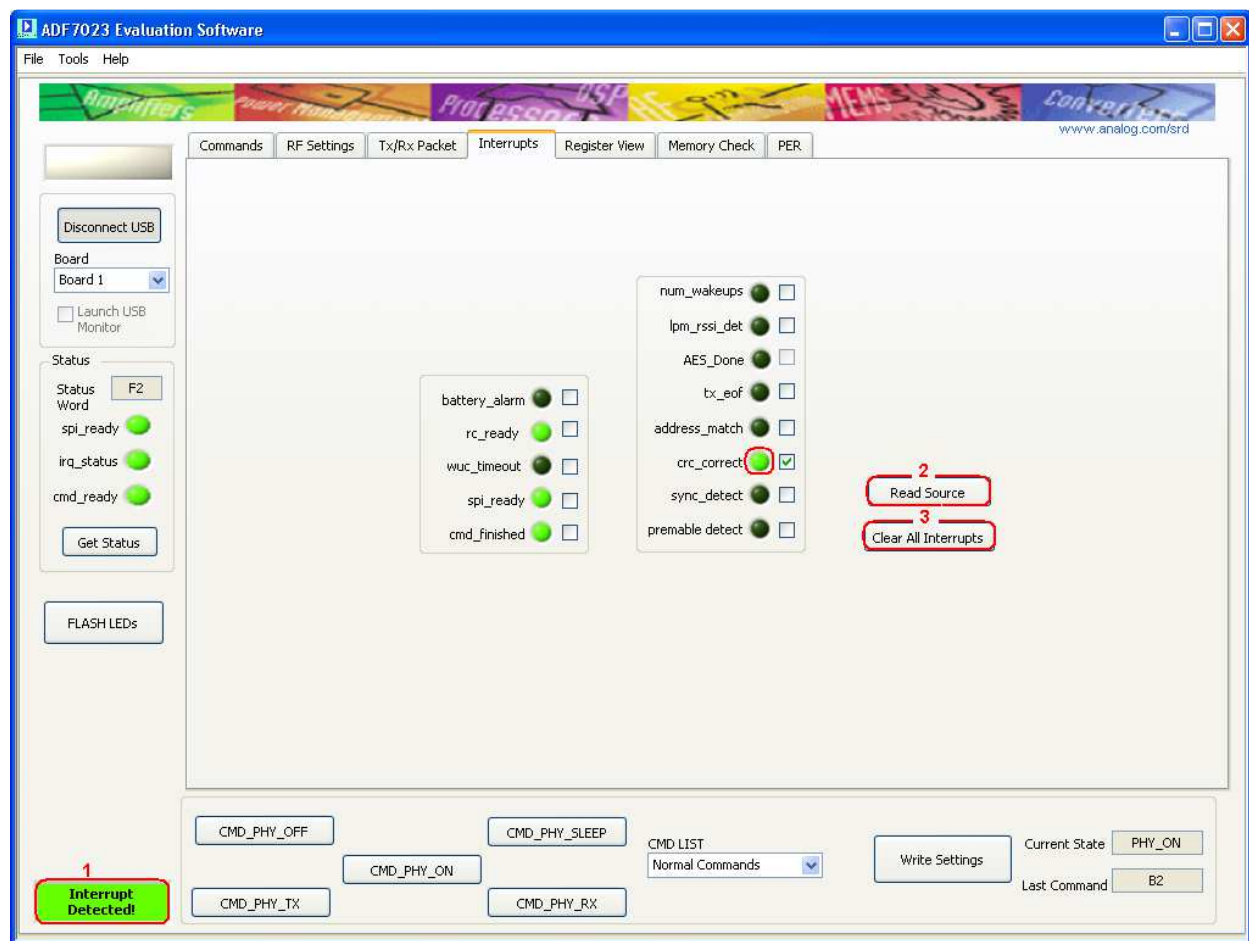

Figure 38
Once the Transmitter has transmitted a packet you should now see “**Interrupt Detected!**” on the Receiver software instance. (Figure 38 point (1))
To check the source of the interrupt, click “**Read Source**” (Figure 38 point (2))
To Clear the interrupt status click “**Clear All Interrupts**” (Figure 38 point (3))